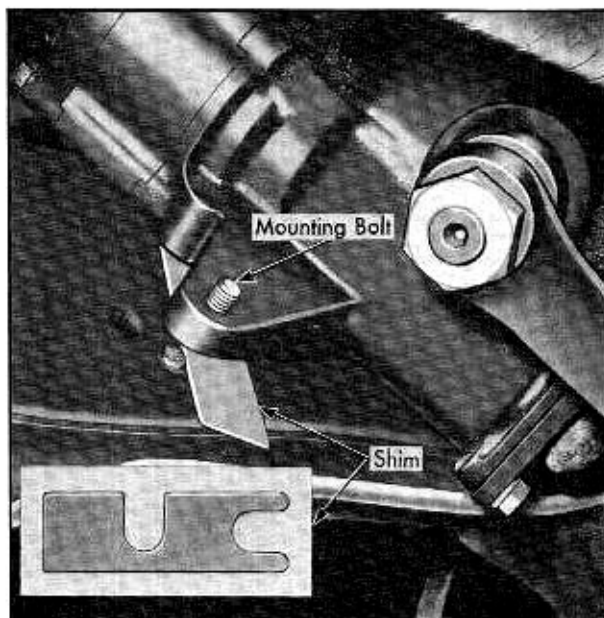

Fig. 7-6 Aligning Steering Gear
c. Check space between gear housing and frame side bar, and install proper thickness shims to fill gap at two rear mounting screws, Fig. 7-6. If there is no space at the rear, loosen the front screw and tighten two rear mounting screws. Check space at front of gear, and add spacers to fill gap at this point. If shims are required in the gear housing alignment adjustment, noted above, the straight ahead position of the front wheels, in relation to the steering gear high spot position and toe-in, should be rechecked.